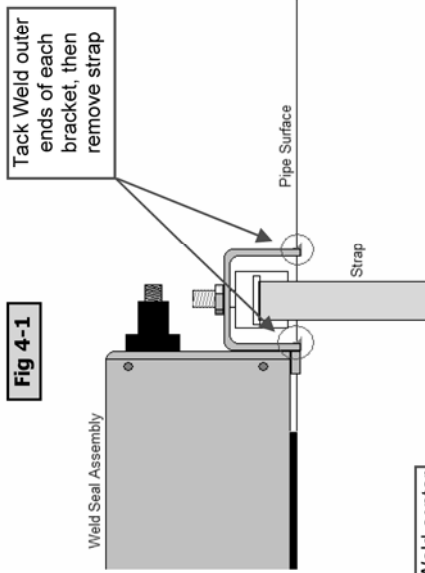

Fig 4-1
- A. While strap is in place, Tack Weld at the outer ends of each bracket as shown in **Fig 4-1**.